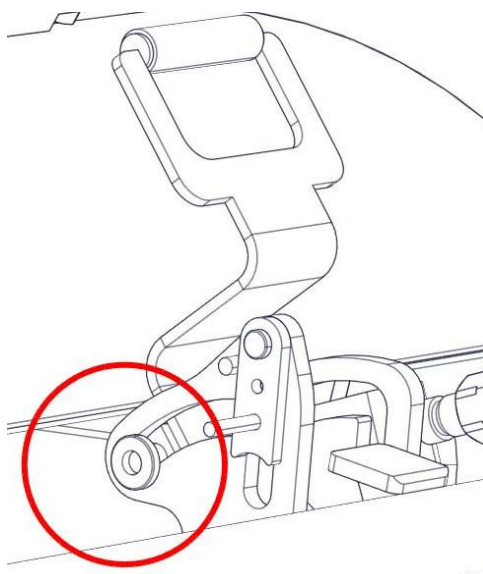

Fig. 23
- a fully unlocked safety system is shown in Fig. 23